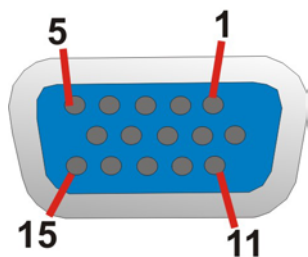

Figure 3-22: VGA Connector
- CN Pinouts: See **Figure 3-22** and **Table 3-23**